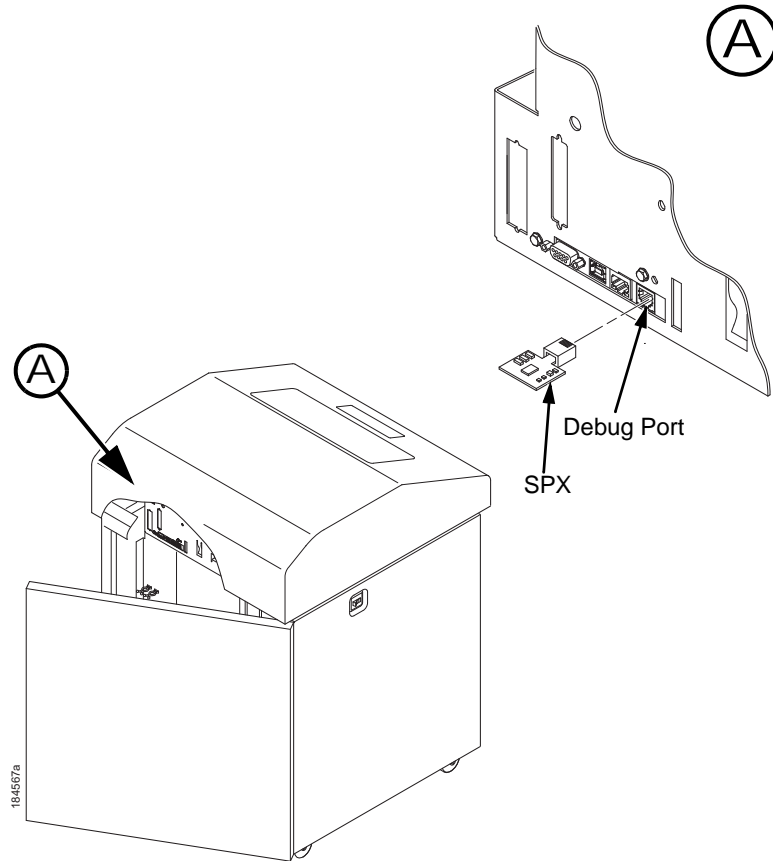

Figure 1. Inserting The SPX into the Debug Port
2. On cabinet models, open the rear door. On pedestal models, refer to Figure 1 to locate the debug port at the rear of the printer.